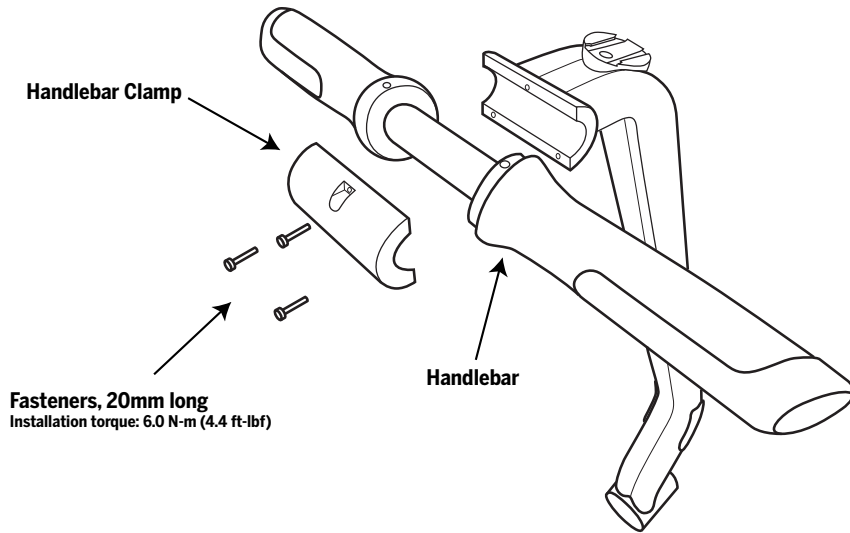

Figure 1. Removing or attaching the Handlebar
3. When you remove these fasteners and the Handlebar Clamp, the Handlebar is released from the LeanSteer Frame. See Figure 1.